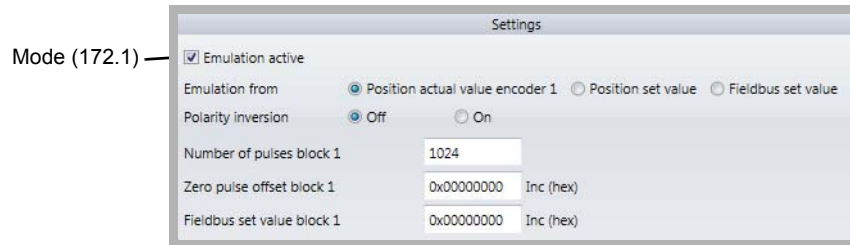

Figure 15: Encoder emulation 1 - settings
- 7 All values and selections must be made according following ▶Figure 15◀ in this window. The settings correspond with the signal of a square wave incremental encoder with 1024 increments.